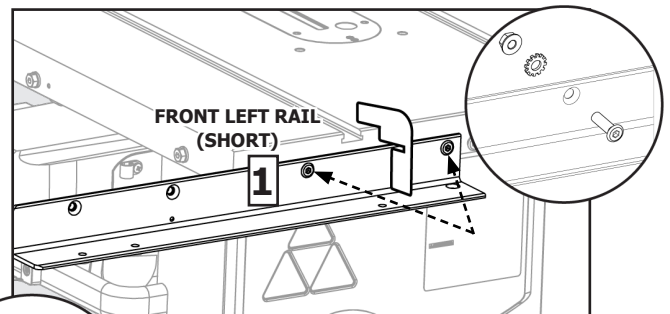
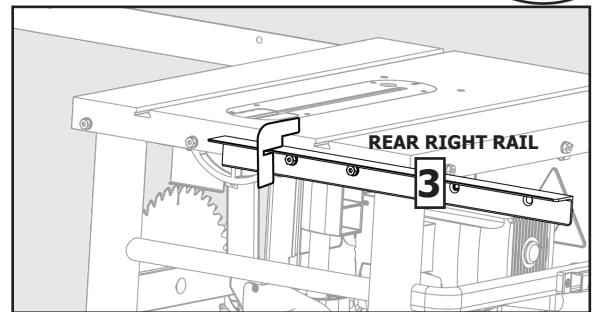

FIGURE 4A
FIGURE 5
1. Attach the front rail halves (1&2) to the table front using four 5/16-18 x 1 1/8-inch flat head screws, 5/16 lock washers, and 5/16-18 hex flange nuts, as shown in Figure 4A and 4B. The front rails have holes on both surfaces of the rail for attachment to both the table and the fence guide.
3. Attach the rail union plate (C) using two M5 x 16 shoulder bolts and M5 nylock nuts in the two holes where the rail sections meet.
4. Attach the rear rail halves (3&4) to the table with four 5/16"-18 hex screws with lock washers. Use the slot in the supplied gauge to ensure the rail is the proper distance from the top of the table. See Figures 5 and 6.